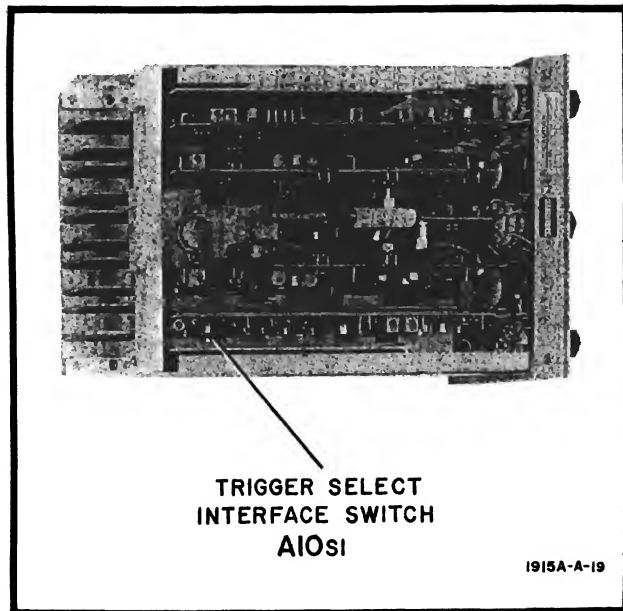

Figure 3-2. Trigger Select Interface Switch Location
2-13. Set trigger select interface switch for desired input trigger coupling. Refer to Paragraph 3-11 for trigger pulse information. Figure 3-2 shows the location of the switch.
3-12. The trigger pulse for the Model 1915A can be applied internally through the mainframe wiring or externally through the DRIVE INPUT (+) connector. Trigger select interface switch A10S1 (Figure 3-2) selects between internal (rear position) and external (forward position) triggers. The trigger pulse must be greater than +1 volt but less than +5 volts.
b. Set trigger select interface switch A10S1 (Figure 3-2) forward for external trigger.